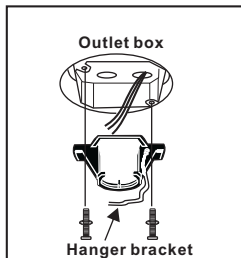

Figure 5
**Step 1.** Secure the hanger bracket to the ceiling outlet box using screws included with your outlet box, lock washers included with the fan. (Fig.5)